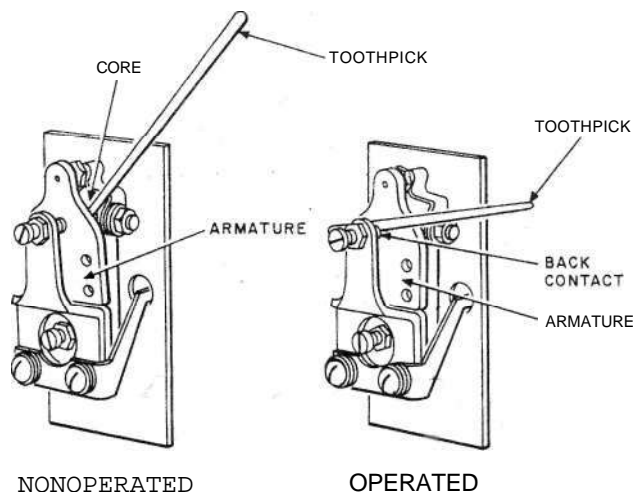

Fig. 20—Blocking 196-Type Relays
3.17 196-Type Relays: Fig. 20—Block relays nonoperated by inserting the pointed end of a toothpick between the armature and the core. Block relays operated by inserting the flat end of a toothpick between the armature and the back contact.